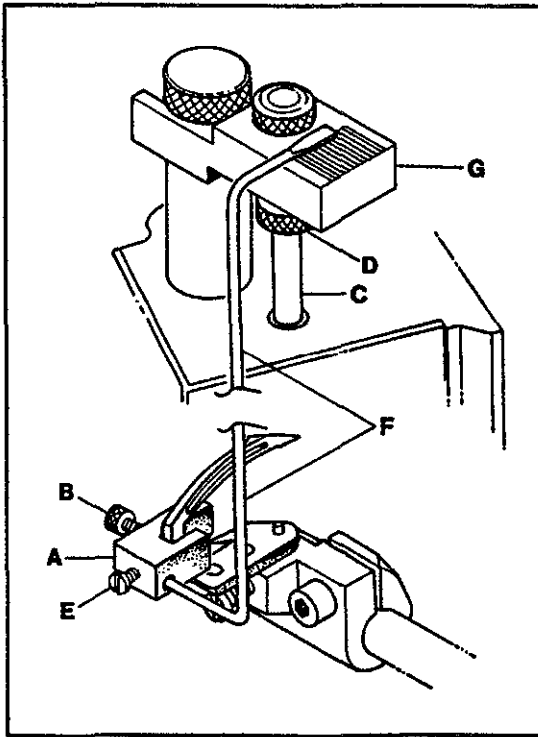
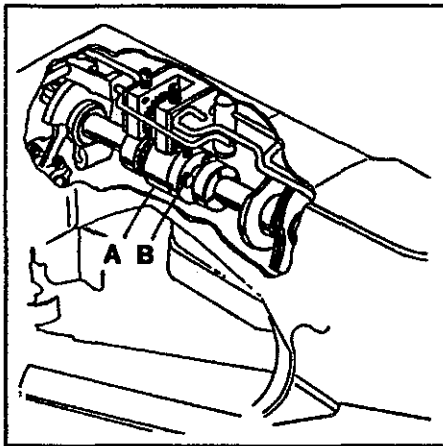

FIG. 9
FIG. 10
Attach the looper clamp and height gauge (A, Fig. 9) to the heel of the looper by tightening screw (B). Turn the handwheel slowly in a clockwise direction until needle bar (C) touches stop screw (D). Loosen screw (E) and set synchronizing gauge rod (F) so the flat end is on one of the lines in the center of the block (G). Tighten screw (E).
Turn the handwheel in the opposite direction until the needle bar touches stop screw (D, Fig. 9). Synchronizing rod (F) should come to the same line on block (G). The difference must not exceed one line.
If the setting cannot be achieved, main shaft coupling (A, Fig. 10) must be repositioned. Remove the crank chamber cover and gasket. Loosen the three coupling screws (B). If synchronizing rod (F, Fig. 9) moves more to the right while the handwheel is rotated in a clockwise direction, the looper is too fast and the main shaft should be retarded. If the rod moves more to the right when the handwheel is rotated in a counterclockwise direction the looper is too slow and the main shaft should be advanced. Tighten screws (B, Fig. 10).